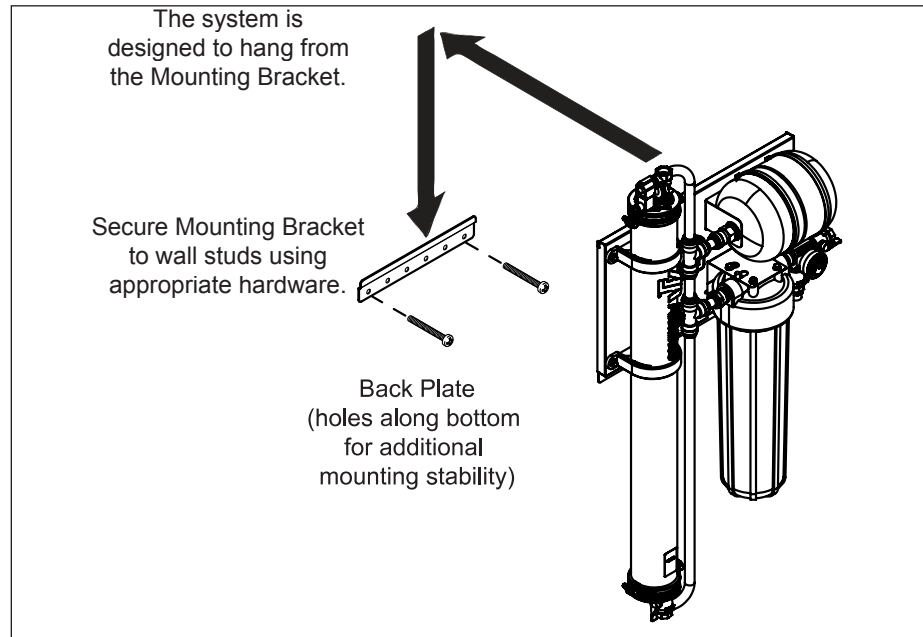

Figure 2. Mounting the System
1. Use a stud finder and level to attach the Mounting Bracket securely to the wall with the appropriate mounting hardware (Figure 2).
2. The Mounting Bracket is designed so that the VZN system can be lifted and hung on the Mounting Bracket. With assistance, lift the system and seat it onto the Mounting Bracket securely (Figure 2).